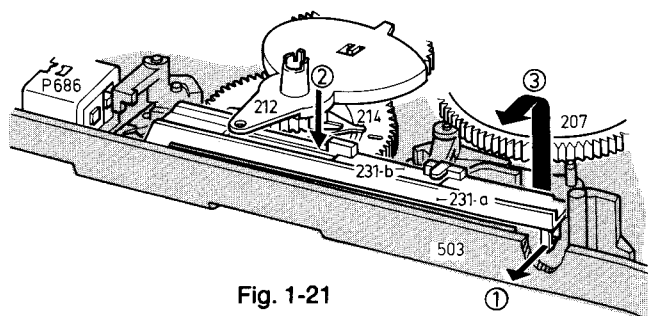

Fig. 1-21
- Unhook spring pos. 233.
- Demount right-hand lever (snap connection with left-hand lever). Swivel left-hand lever backward (Fig. 1-21).
- ① Unlock the click construction between the brake lever, Pos. 231a and Pos. 231f at the right and remove it by bending bracket ② ③ pos. 231a up at the right side until its lower pin can be brought over the chassis plate.